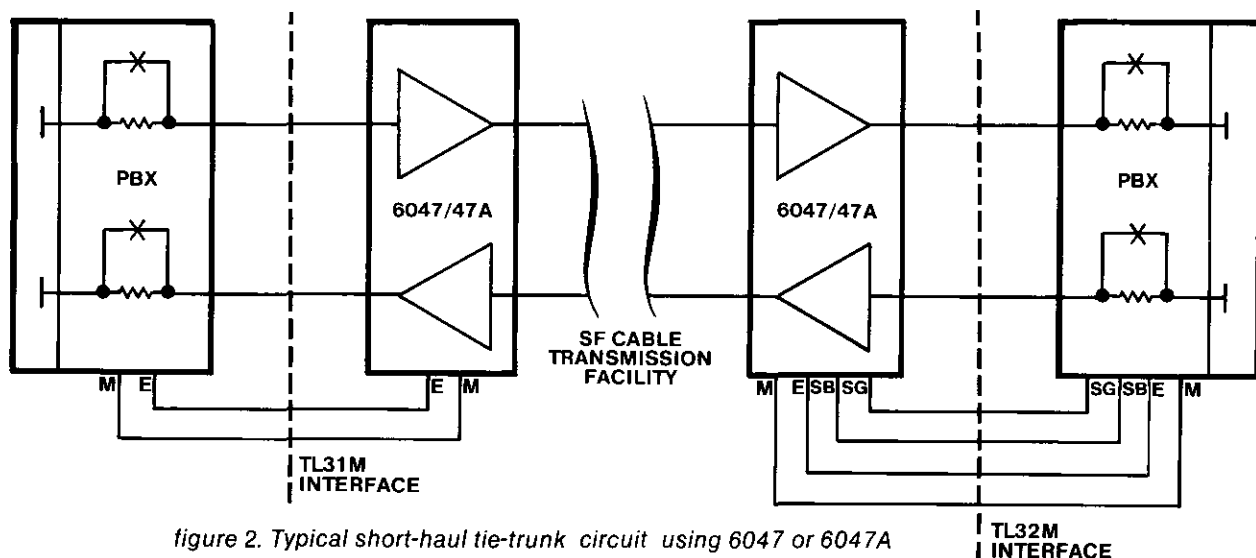

figure 2. Typical short-haul tie-trunk circuit using 6047 or 6047A
2.02 The 6047 and 6047A are well suited to a variety of 4wire-to-4wire SF-to-E&M applications, both network-terminating and otherwise. In network-terminating applications where the serving telephone company uses SF signaling, each module fulfills Registered Facility Interface Codes TC31E, TC31M, TC32E, TC32M, TL31E, TL31M, TL32E, and TL32M. Figures 2 through 4 show three typical network-terminating tie-trunk applications of the 6047 and 6047A: short-haul, long-haul involving analog carrier, and long-haul involving digital carrier, respectively.